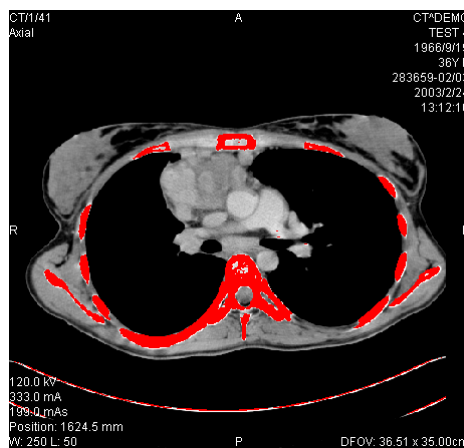

Figure 190 – Segmented image with threshold selection, contouring bones
4. Select the **Lower** and **Upper** grayscale values for the search process. All grayscale values beginning within the selected threshold value range will be considered as matching. You can see this in the current view – matching regions are displayed red, the rest is black (see Figure 190).